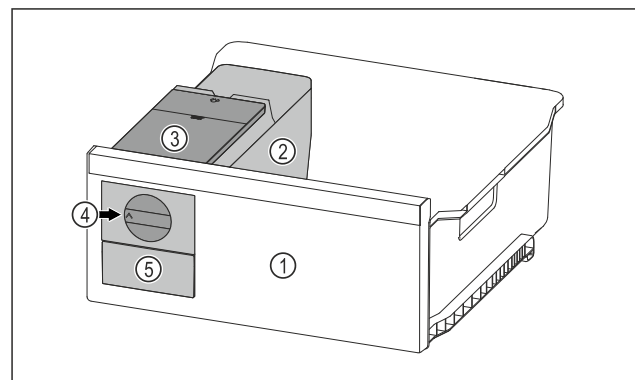

Fig. 120 Example illustration
- ▶ Turn the rotary knob Fig. 120 (4) clockwise as far as it will go.
- ▷ Ice cubes fall from the ice cube tray into the ice cube drawer Fig. 120 (5).